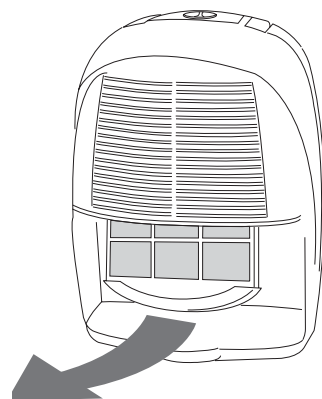

fig. 4
- To remove the air filter, take out the tank and extract the filter by pulling downwards (fig. 4).